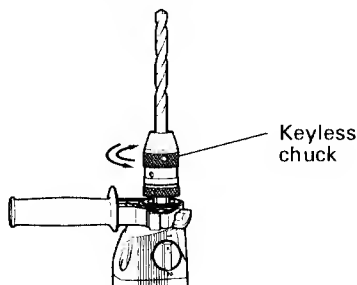

Fig. 3
For keyless chuck (Fig. 3, 4)**(1) Mounting the bit**